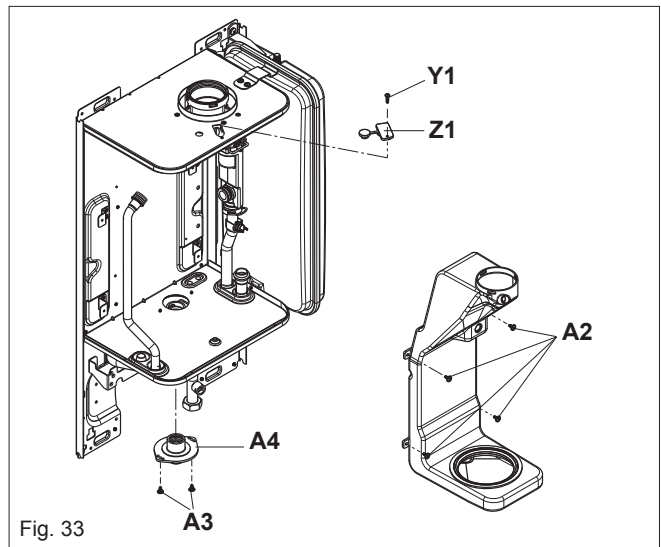

Fig. 33
6.20 FLUE COLLECTOR REMOVAL (fig. 33)
Isolate the appliance from the electrical supply and remove the appliance casing as described in 4.7.1. Restore the electrical supply to the boiler and switch the boiler to the OFF mode. Have access to the printed circuit board, locate and press the CO button (see fig. 36 pos. SW1). Press the button the number of times according the function requirement as par 7.3.1. Set the flue gas analyser to read CO₂, allow the burner to stabilise and insert the probe into the flue analysis test point (Y1-Z1 fig. 33). The appliance will operate in CO₂ mode for approximately 15 minutes.
- Insert the flue gas analyser probe into the flue gas test point (see fig. 33) and compare the values with those shown in section 2 (Nat. Gas) or section 9 (LPG). If different adjust the gas valve according to 7.3.1, 7.3.2, & 7.3.3.